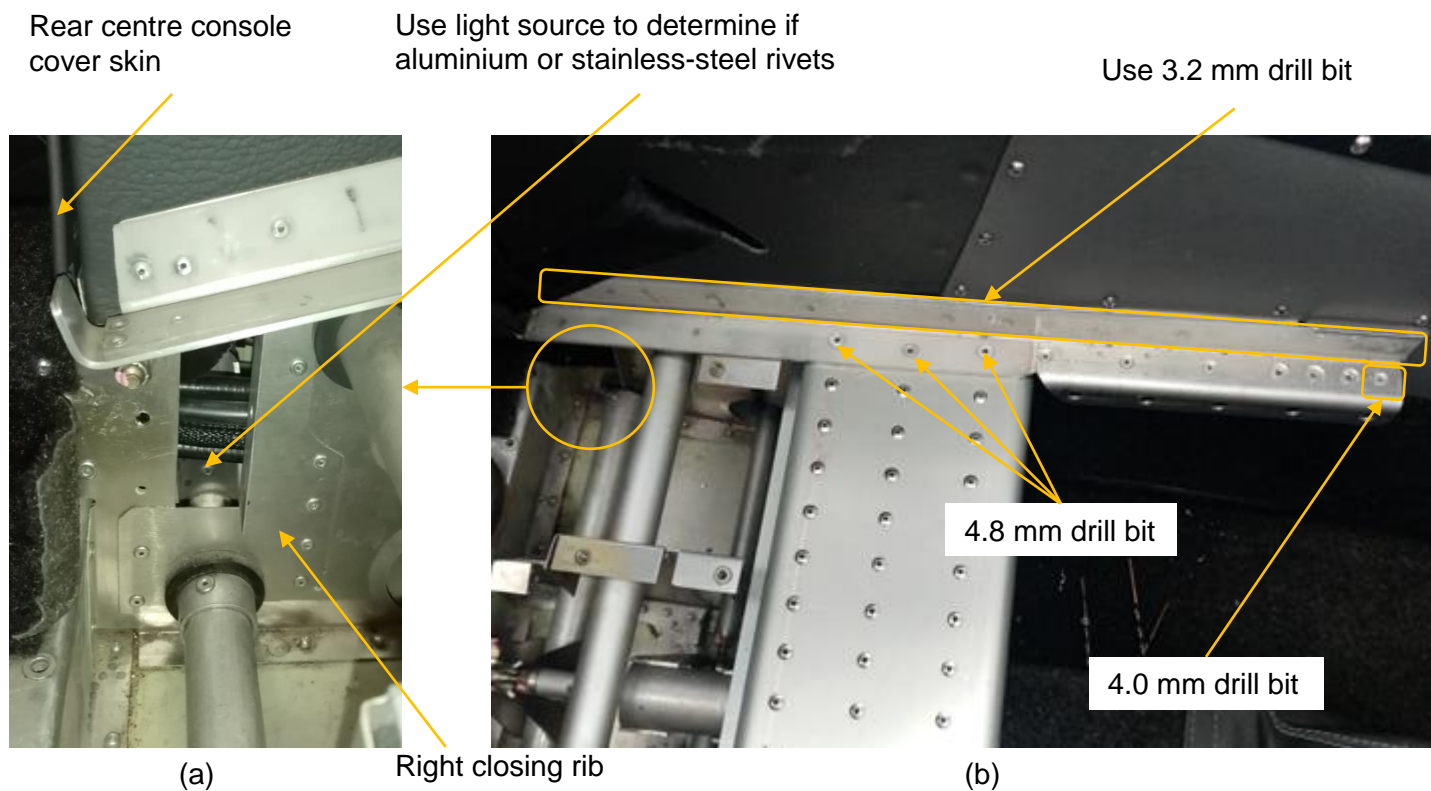

Figure 3 - Region of inspection area and seat rail
3. The inspection region when the floor skin is removed is shown in Figure 3. Use the light source to determine if control stop rivets are aluminium or stainless steel. Use Figure 4 as a guide for making the distinction.
7. Drill the heads off the countersunk rivets shown in Figure 3(b) with the angle drill (using 3.2 and 4.8 mm drill bits) to remove seat rails.
11. Cut the cable ties that guide the centre console wiring and pitot static tubes (using the side cutter) to reduce their tautness, then use the angle drill and 3.2 mm drill bit to drill heads off the rivets on the closing rib as shown in Figure 5(b). The closing rib on the centre console RH side is shown in Figure 3(a).
18. Install the controls closing ribs (CF-RIB-009-R/L-C-0 shown in Figure 3(a)) using the 3.2 mm clecos to align the holes. Assemble with (20) 3.2 x 8 mm aluminium domed rivets.
20. Return the seat rails, including the plastic plates, using clecos to align the holes before riveting. Use the hand riveter, two 4.0 x 10 mm and six 4.8 x 15 mm countersunk aluminium rivets to assemble the seat rails. In addition, install the (18) 3.2 x 10 countersunk aluminium rivets on the upper rails (see Figure 3(b)).
21. Return the rear centre console cover skin and the floor skin shown in Figure 3(a).